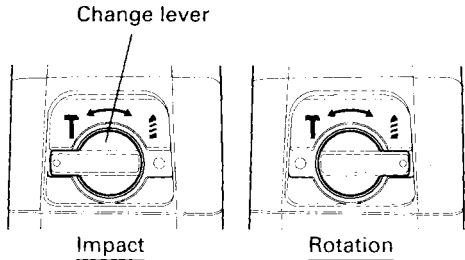

Fig. 7
9. **IMPACT to ROTATION** changeover (Fig. 7)
The change lever may not rotate smoothly when changing from hammer drill mode to drill mode (Fig. 7).